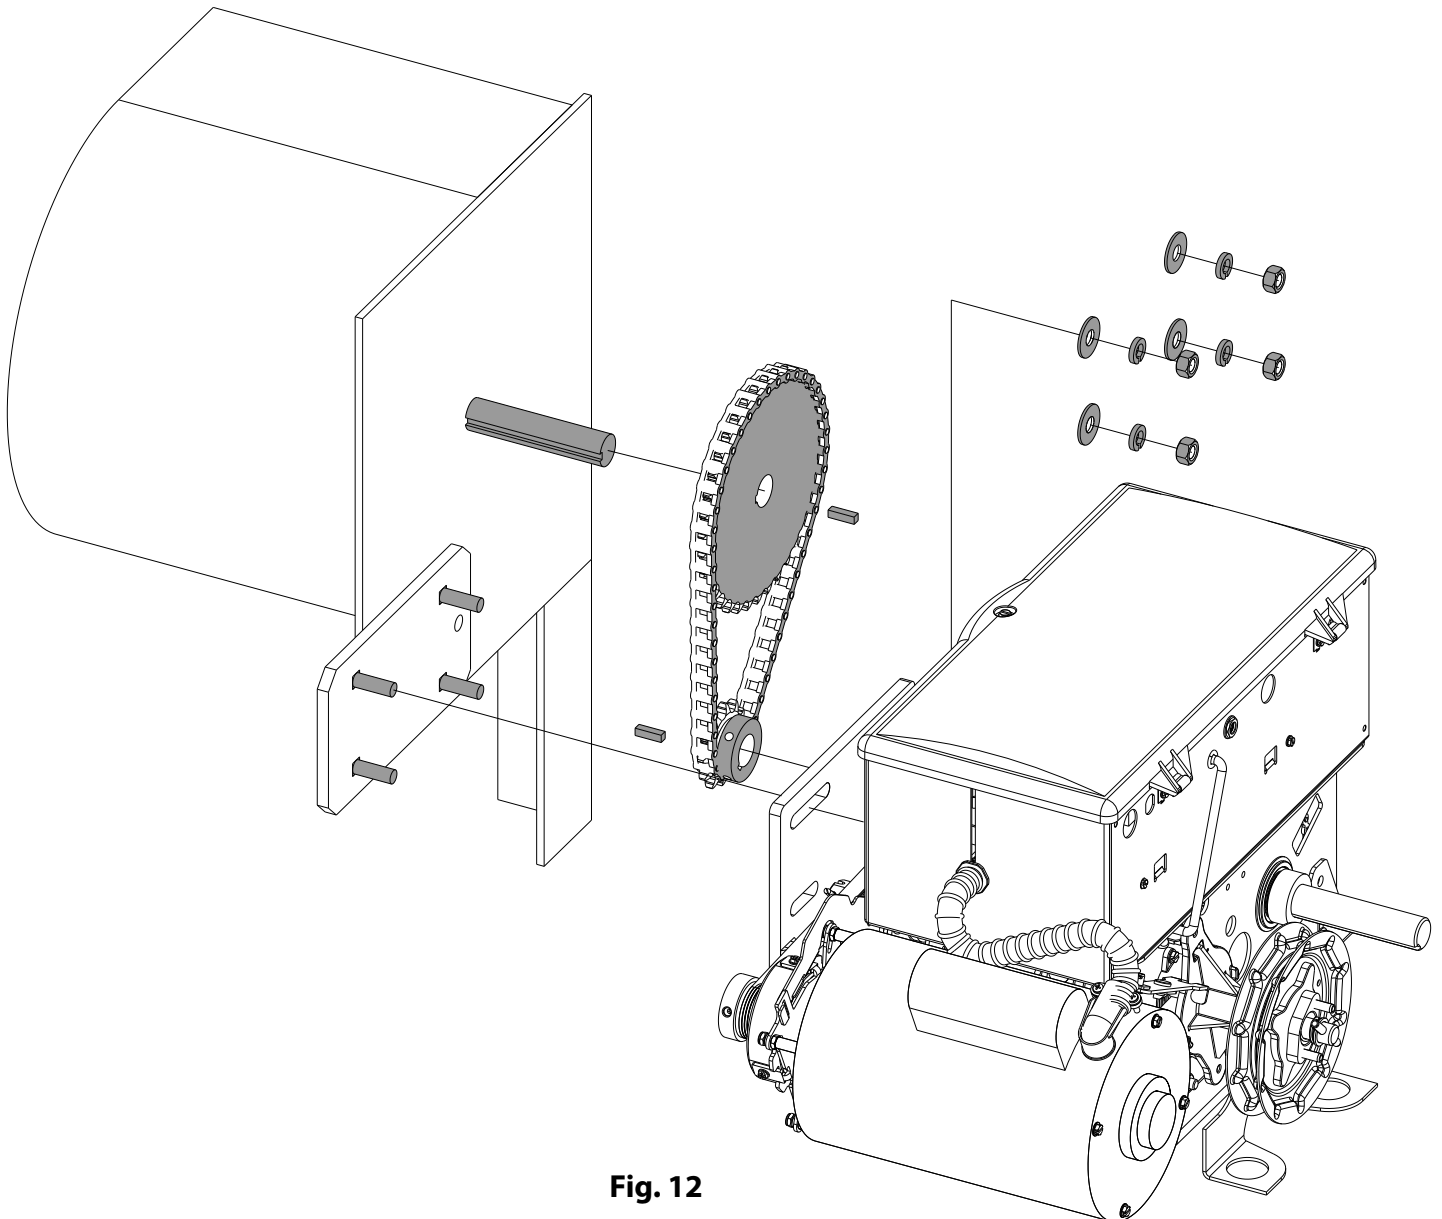

Fig. 12
4. Mount operator assembly to weld plate and install mounting hardware, do not tighten. Fig. 12